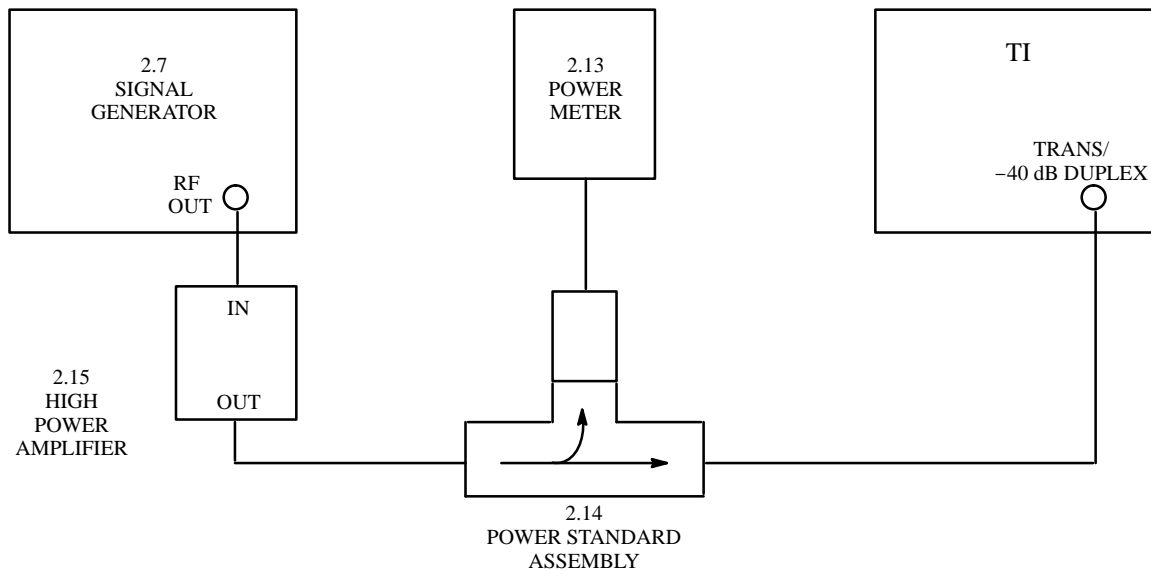

Figure 4. Power Monitor Test Configuration Using Power Standard Assembly
4.10.2 Connect the equipment as shown in Figure 4. Ensure that the signal generator output level is set to minimum.